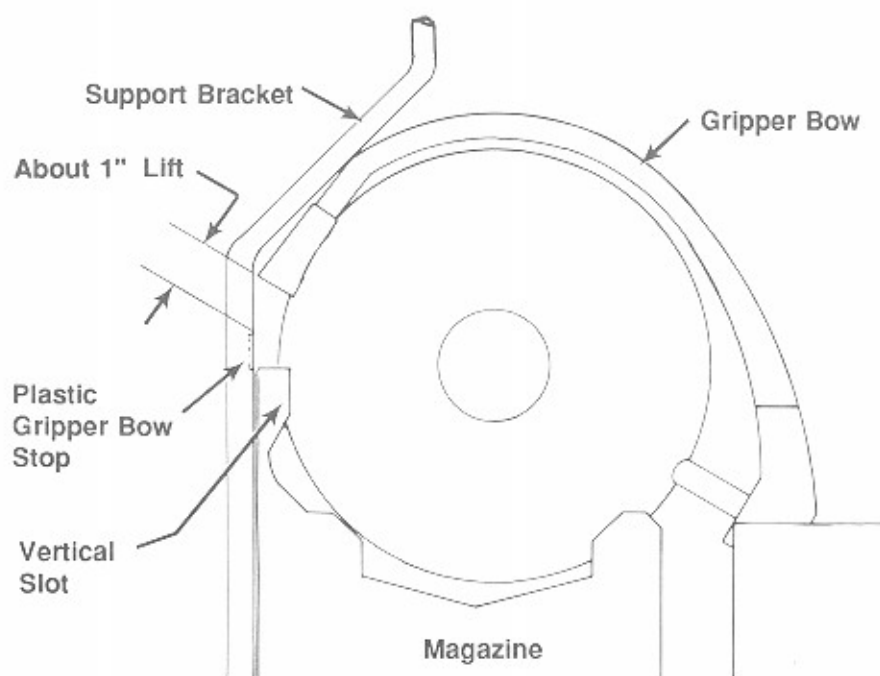

Figure 6-13. Magazine and Gripper Bow Stopping Position
2. Using a 5/32-inch Allen wrench in the end of transfer motor shaft, turn motor shaft clockwise until the gripper bow starts to lift the disc out of the magazine (*see figure 6-13*).